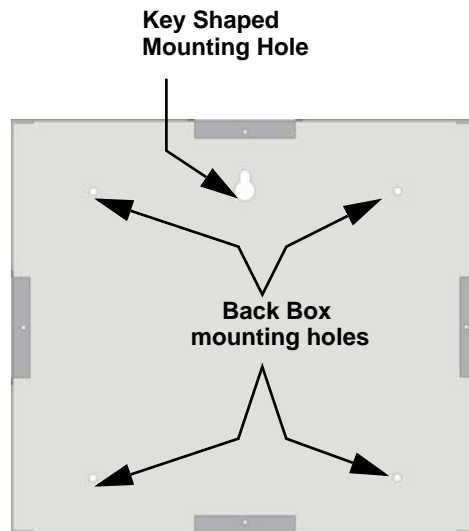

Figure 4.17 Back Box Surface Mount Holes
- To properly mount the back box, insert a single screw into the key shaped mounting hole. Do not tighten all the way. See Figure 4.17.
2. To properly mount the back box, insert a single screw into the key shaped mounting hole. Do not tighten all the way. See Figure 4.17.